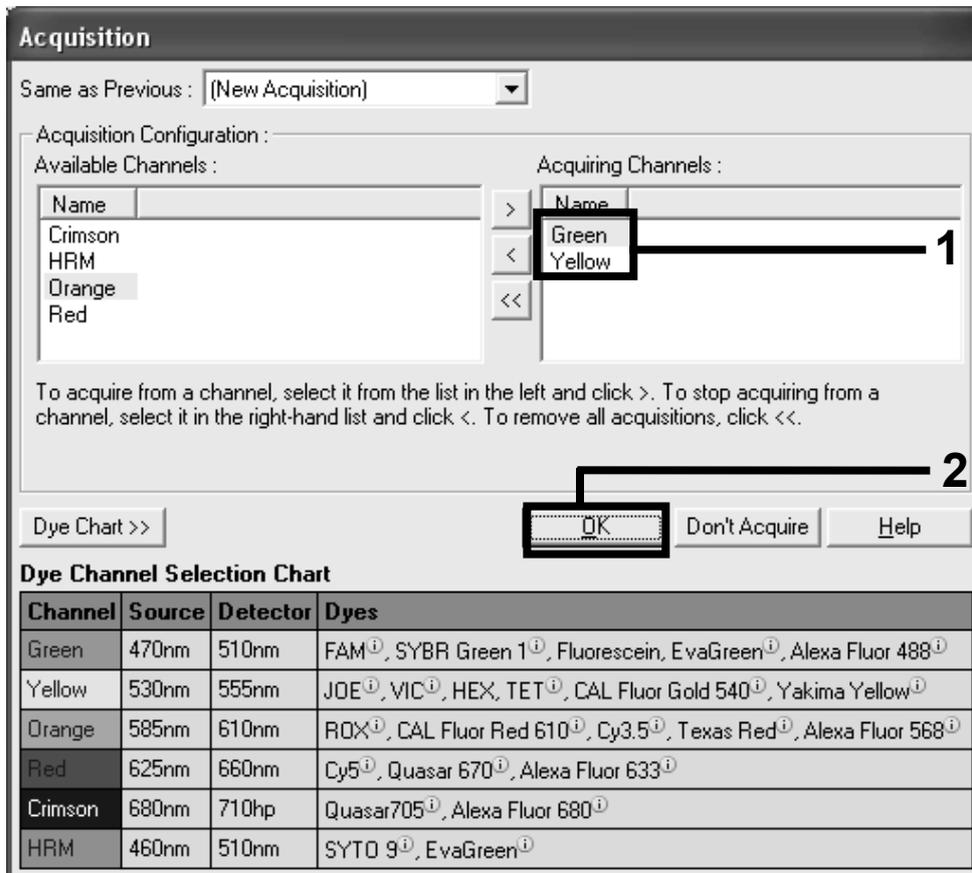

Figure 8. Acquiring at cycling step of 60°C.
Adjusting the fluorescence channels	Figures 8–12
15. Set Green and Yellow as acquiring channels by selecting the ">" button to transfer these from the "Available Channels" list. Click "OK" (Figure 8).